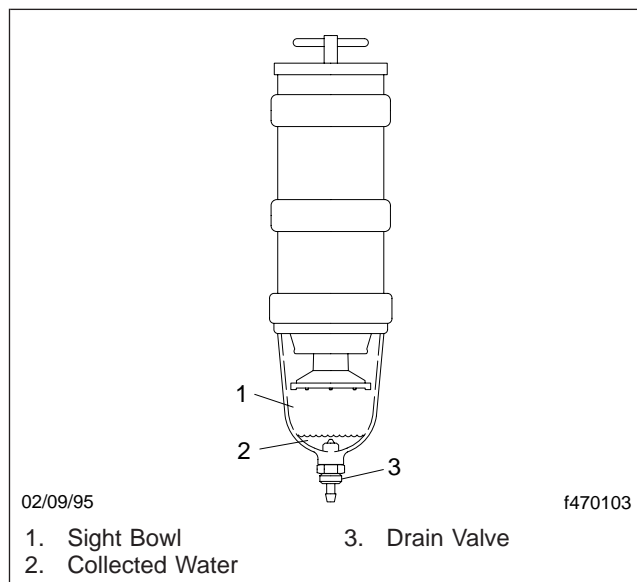

Fig. 11.3, Racor Fuel/Water Separator
- For a Racor Model 1000FG (see Fig. 11.3):* Check the water level in the sight bowl. To drain the water, loosen the valve at the bottom of the bowl two full turns and allow the water to run out. Close and tighten the valve finger-tight.